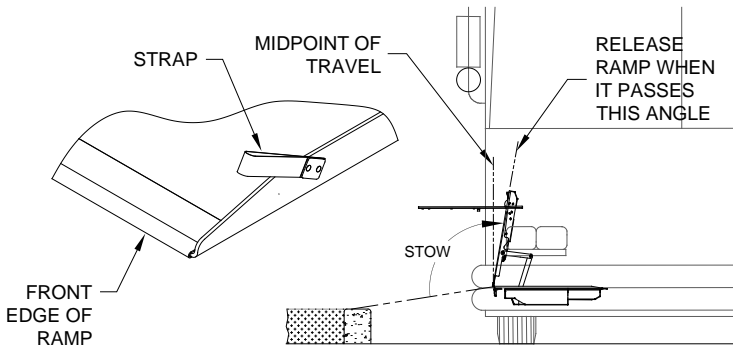

FIGURE 3-5: RAMP MIDPOINT DURING MANUAL STOW
- 2) Refer to **Figure 3-5**. Lift ramp and push it towards the stowed position.